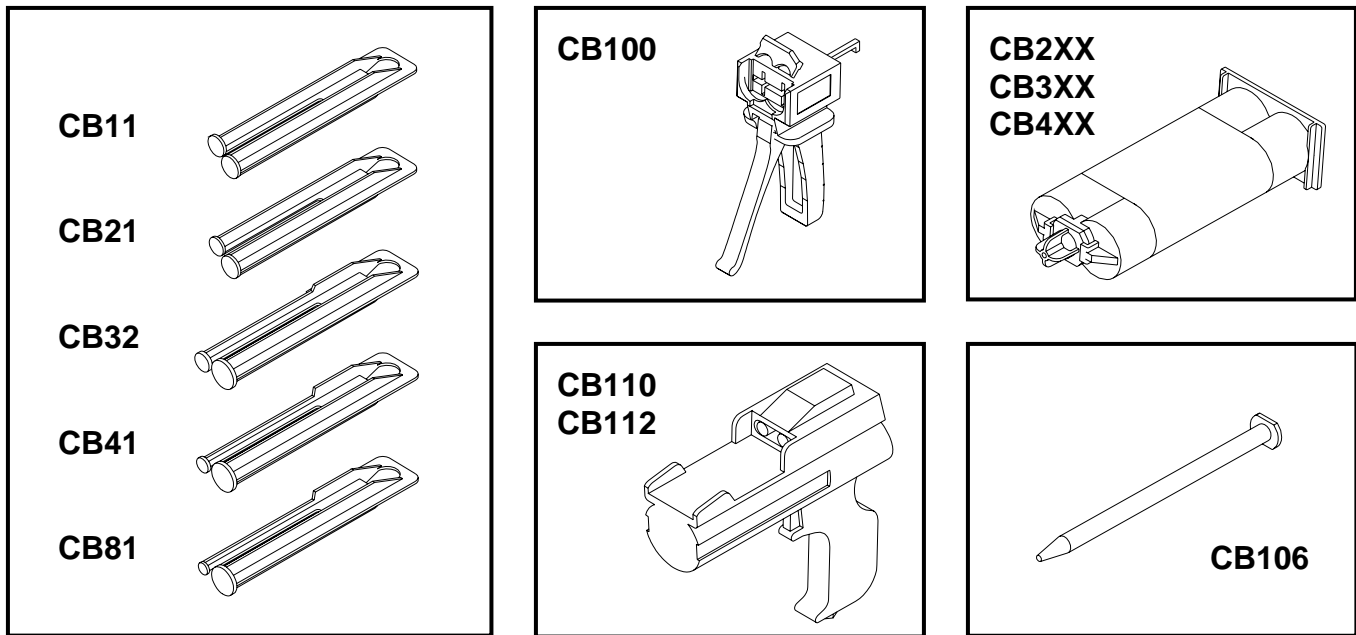

FIGURE 4. ADHESIVE APPLICATOR COMPONENTS
2.5.2 Pre-proportioned Adhesive Dispenser Kit – Refer to Table II to select the appropriate adhesive applicator for the adhesive dispenser kit being used. Figure 4 shows the adhesive applicator components.